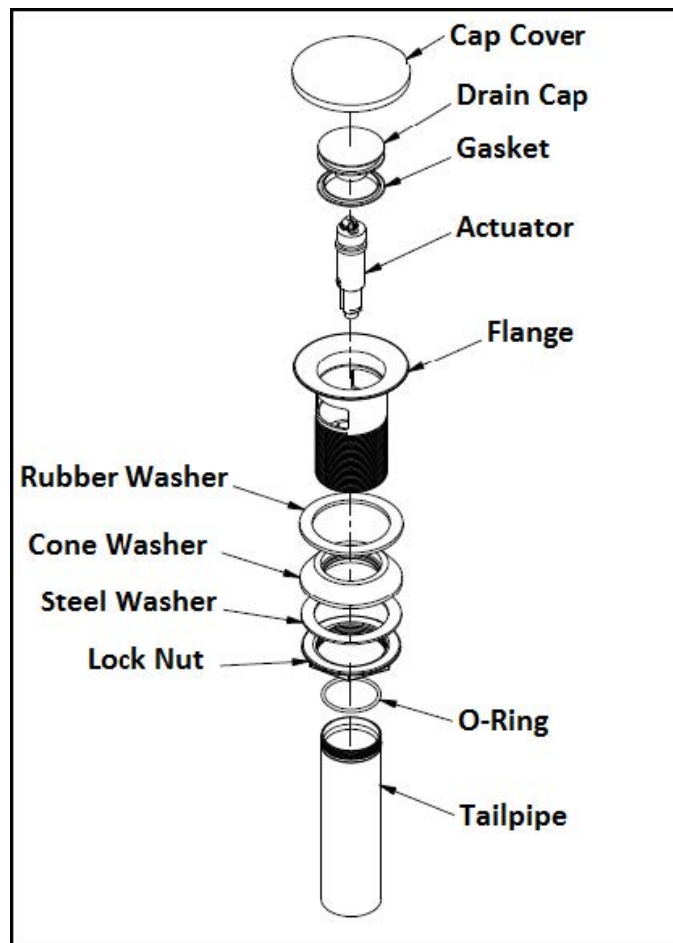

Figure 3
4. Remove **FLANGE, RUBBER WASHER, STEEL WASHER**, and discard drain **CAP COVER** from drain assembly. Place **RUBBER WASHER** into **FLANGE**. Then, place **FLANGE** through the sink hole (Clear silicone may be used in place of **RUBBER WASHER**). From underside of sink, install **CONE WASHER, STEEL WASHER**, and **LOCK NUT** into **FLANGE**. Thread **LOCK NUT** firmly. Thread **TAILPIPE** to **FLANGE** assembly and assemble **TAILPIPE** to existing P-Trap. See Figure 3.